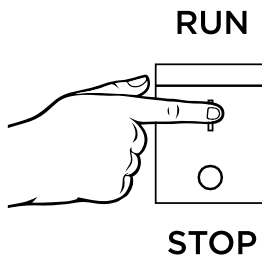

Figure 11 - Engine Control Switch - RUN
5. Push the engine control switch into the **RUN** position (see Figure 11).